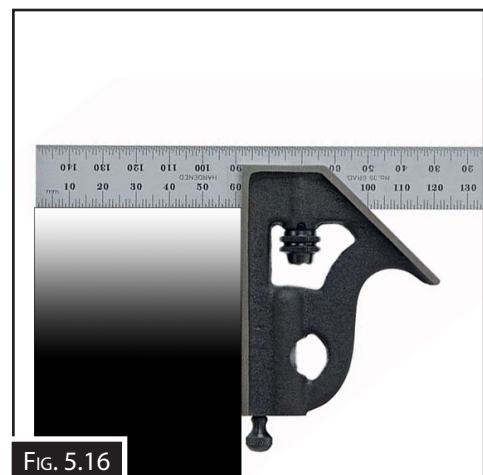

FIG. 5.16
7. Take a cut and check the angle with a square. If the finished cut is not correct then loosen the lock nut and adjust the stop accordingly. (Fig. 5.16)